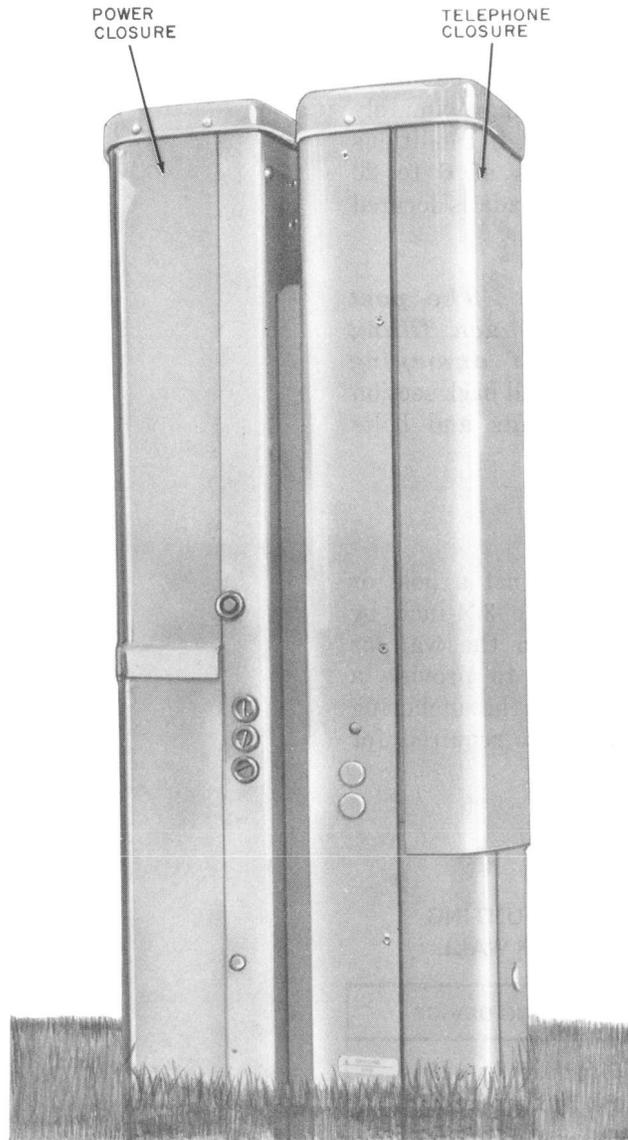

Fig. 11—Joint Installation—Telephone and Power
4.08 Using the joint mount kit instruction sheet and hardware, mount the closures as shown in Fig. 11.